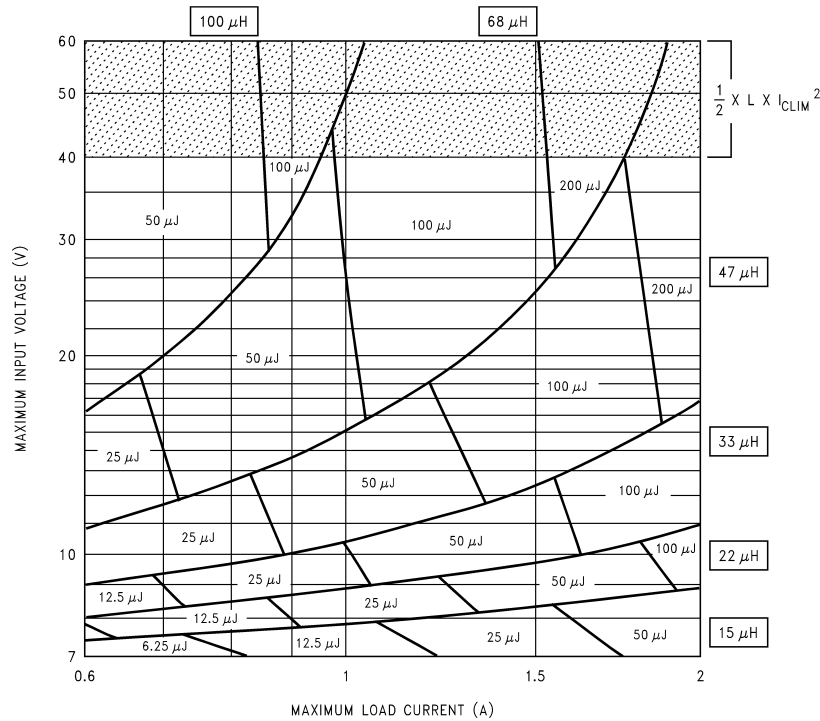

Figure 26. LM2592HV-5.0
1. A first pass inductor selection is based upon *Inductance and rated max load current*. We choose an inductor with the Inductance value indicated by the nomograph (see Figure 26) and a current rating equal to the maximum load current. We therefore quick-select a $68\mu\text{H}/1\text{A}$ inductor (designed for 150 kHz operation) for this application.
2. We should confirm that it is rated to handle $50 \mu\text{J}$ (see Figure 26) by either estimating the peak current or by a detailed calculation as shown in AN-1197, and also that the losses are acceptable.
1. A first pass inductor selection is based upon *Inductance and the switch current limit*. We choose an inductor with the Inductance value indicated by the nomograph (see Figure 26) and a current rating equal to I_{CLIM} . We therefore quick-select a 68 μ H/4A inductor (designed for 150 kHz operation) for this application.